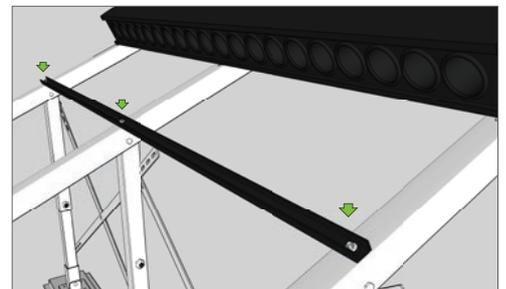

Fig 6
7. Just above the stands back leg, position and fix the support rail brace using the tek screws supplied - 3 locations (Fig 6)